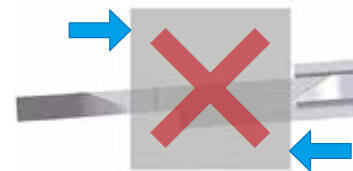

Fig. 6
3. Do not measure an object with the measuring faces tilted. (**Fig. 6**)